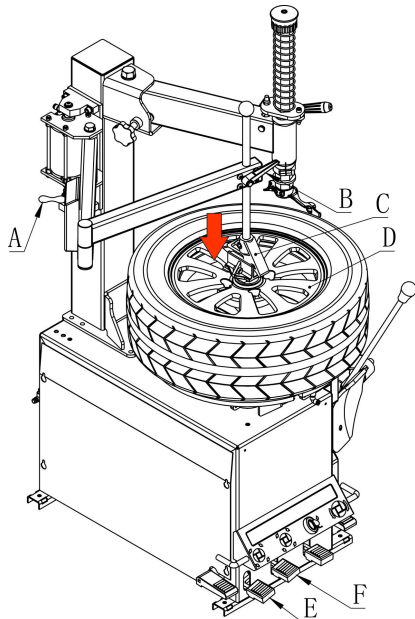

Fig. 8
- Press pedal E, four jaws start to open, and make the jaws open till big enough to clamp the rim, put tire on the turntable. As Fig 8